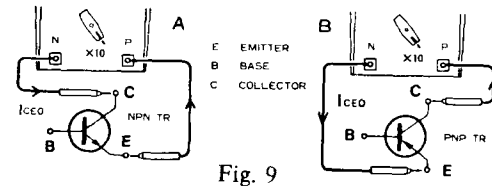
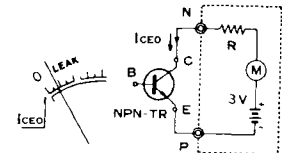

Fig. 9
Fig. 10
- 2-2 An NPN TR is connected as shown in Fig. 9-A, and a PNP TR, -B.
Represented electrically, Fig. 9 may otherwise be as Fig. 10, where the section on the right of the N and P terminals enclosed in the dotted line corresponds to the internal circuit of the tester.
- 2-3 In Fig. 10, the current flowing across the P and N terminals is  $I_{CE0}$  (reverse leakage current) of the TR, and the quantity of the leakage current is read on the LEAK scale in mA.